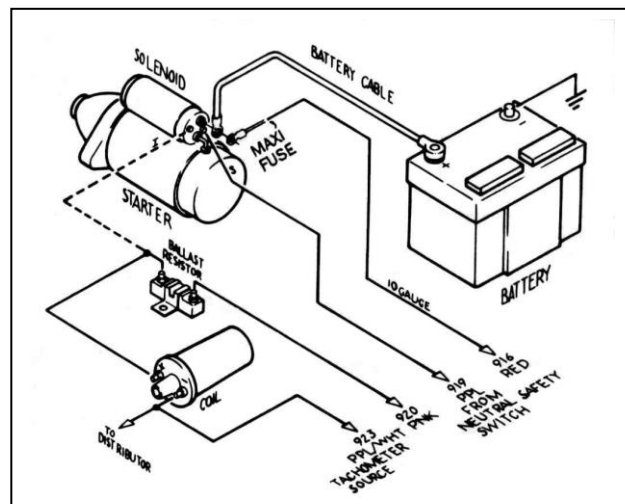

Figure 7-4 GM Ignition (Start-Run) System
7.3 GM Ignition (Start/Run) System. See Figure 7-4.
- 7.3.6** A 14-gauge wire connected from the Starter Solenoid Ignition (I) terminal to the ignition coil side of the Ballast Resistor is optional. This wire (the dashed line in **Figure 7-4**) serves as a ballast resistor BYPASS during engine starting. However, if the starter solenoid shorts out, which is not unusual, the engine will stop running and will not restart as long as this wire is connected. You may therefore choose to omit it. If you are not using a Ballast Resistor, leave the Starter Solenoid Ignition (I) terminal unconnected and do not install the bypass wire.